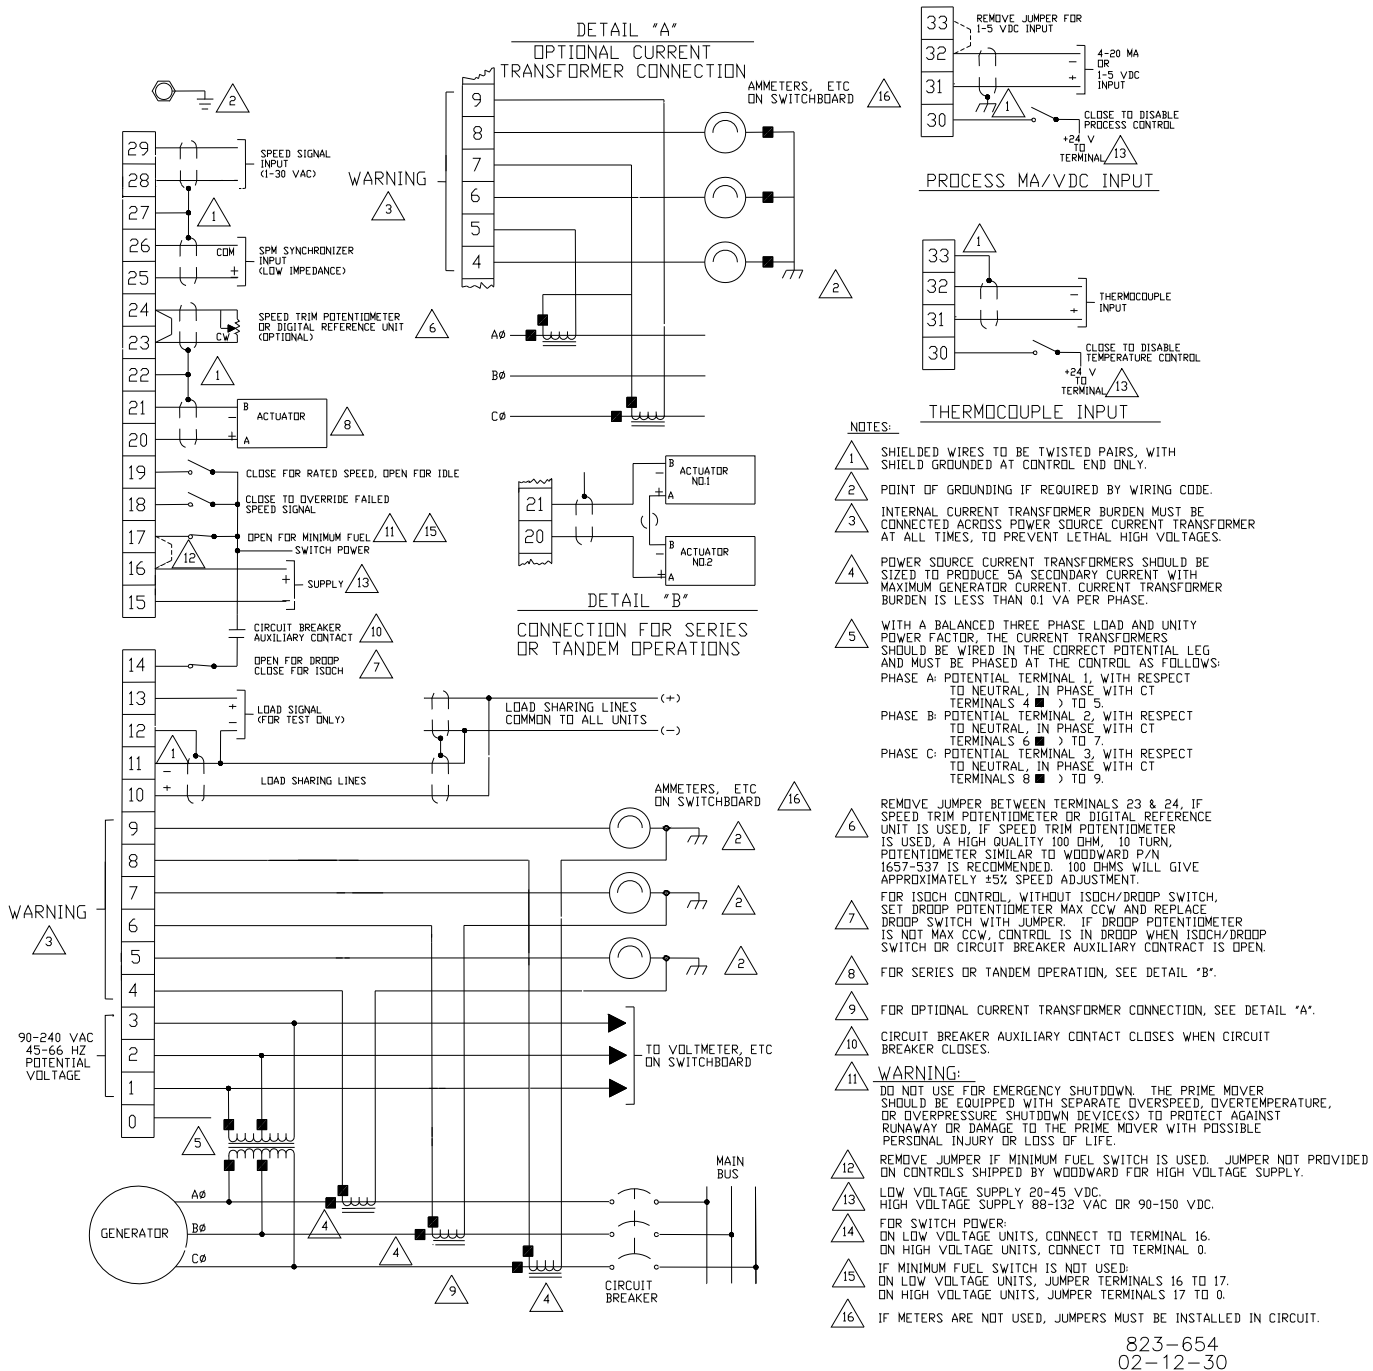

Figure 1-2. Plant Wiring Diagram
External wiring connections and shielding requirements for a typical control installation are shown in the plant wiring diagram (Figure 1-2). These wiring connections and shielding requirements are explained in the balance of this section.
All shielded cable must be twisted conductor pairs. Do not attempt to tin the braided shield. All signal lines should be shielded to prevent picking up stray signals from adjacent equipment. Connect the shields to the control terminals as shown in Figure 2-1, and the plant wiring diagram (Figure 1-2). Wire exposed beyond the shield should be as short as possible, not exceeding two inches. The other end of the shields must be left open and insulated from any other conductor. Do not run shielded signal wires with other wires carrying large currents. See manual 50532, *EMI Control for Electronic Governing Systems*, for more information.
The potential transformer secondary line-to-line voltage must be in the 90 to 240 volt RMS range. Refer to the plant wiring diagram (Figure 1-2).
The standard method of connecting the current transformers is shown in the plant wiring diagram (Figure 1-2). An alternate method is the open delta connection shown in the insert in the plant wiring diagram.
The minimum-fuel contact is intended as an optional means for a normal shutdown of the prime mover. It is connected in series with terminal 16 (terminal 0 on high-voltage controls) and terminal 17 as shown in the plant wiring diagram (Figure 1-2). Do NOT remove this jumper from terminal 17 unless a minimum fuel contact is installed; the control will not operate without 20 to 45 V dc applied to terminal 17.
A jumper must be connected to terminals 23 and 24 unless an optional remote Speed Trim potentiometer is used. If a Speed Trim potentiometer is used, connect it as shown in the plant wiring diagram (Figure 1-2), using shielded wire. Connect the shield to terminal 22. Make sure the shield has continuity the entire distance to the potentiometer, and that the shield is insulated from all other conducting surfaces. A 100 Ω potentiometer will provide $\pm 5\%$ speed adjustment. If less adjustment is desired, potentiometers of smaller values may be used. Potentiometers of the multi-turn type are recommended.
- B. Check for correct wiring per the plant wiring diagram (Figure 1-2).